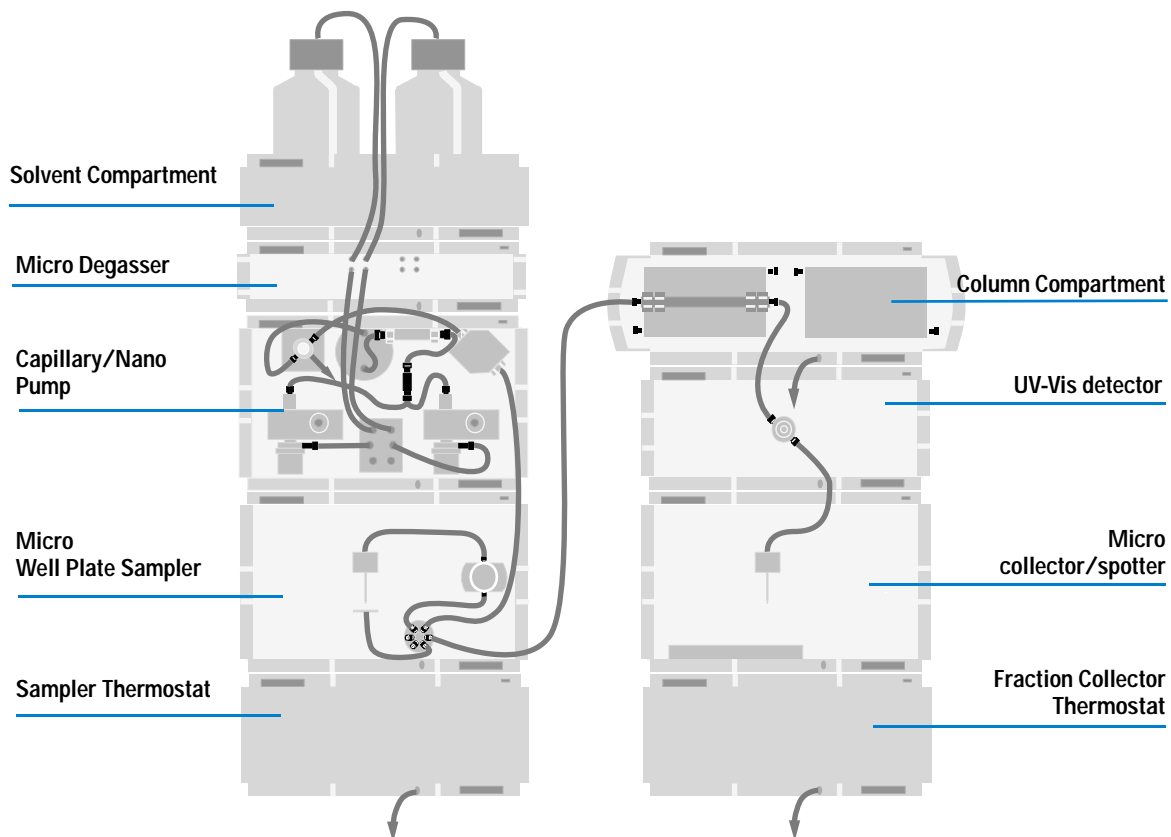

Figure 1 Recommend Stack Configuration for micro collector/spotter in the capillary or nanoflow system
- Figure 1 on page 18 shows the configuration recommended for the micro collector/spotter within an Agilent 1200 Series capillary or nanoflow LC system